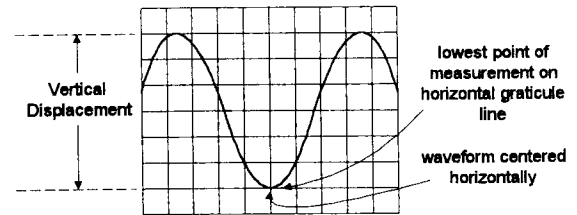

Fig.6. Peak-peak voltage measurement
3. Adjust the V.POSITION control until the lowest point of the waveform falls on one of the horizontal graticule lines, keeping the waveform as close to being centered as possible. (see Fig. 6)
4. Note the number of divisions of vertical displacement between the upper and lower points of the waveform where measurement is desired, and multiply this times the setting of the VOLTS/DIV selector times the probe attenuation factor. For example, in Fig. 6 if the VOLTS/DIV selector was in the 5mV/div position using the